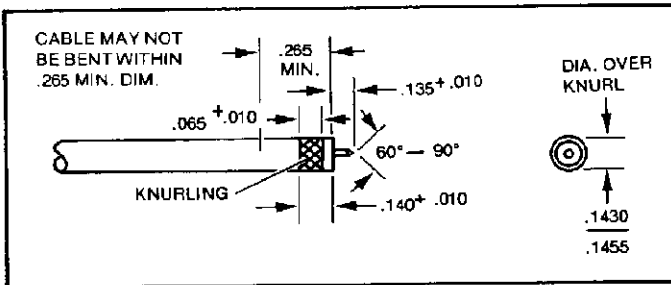

Figure 5
- Back off thumb screw and remove cable. Knurl should be located as shown in Figure 5.